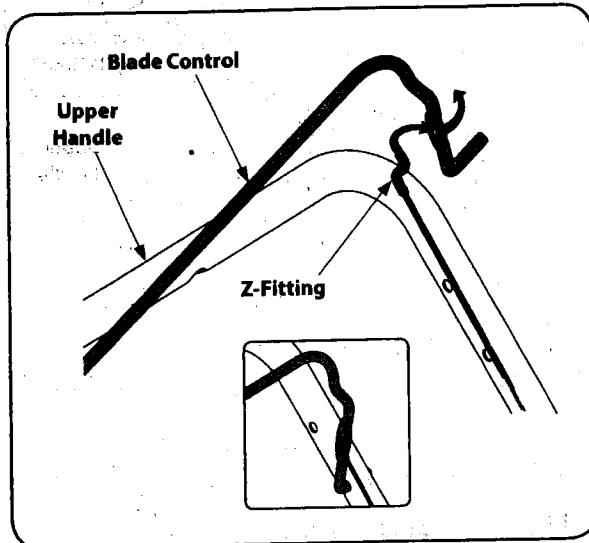

Figure 3-9
1. To make it easier to attach the Z fitting, temporarily remove the left side of the blade control as shown in Figure 3-9.
2. Pull up on the Z end of the brake cable and hook it into the control from the inside to outside. See Figure 3-9.